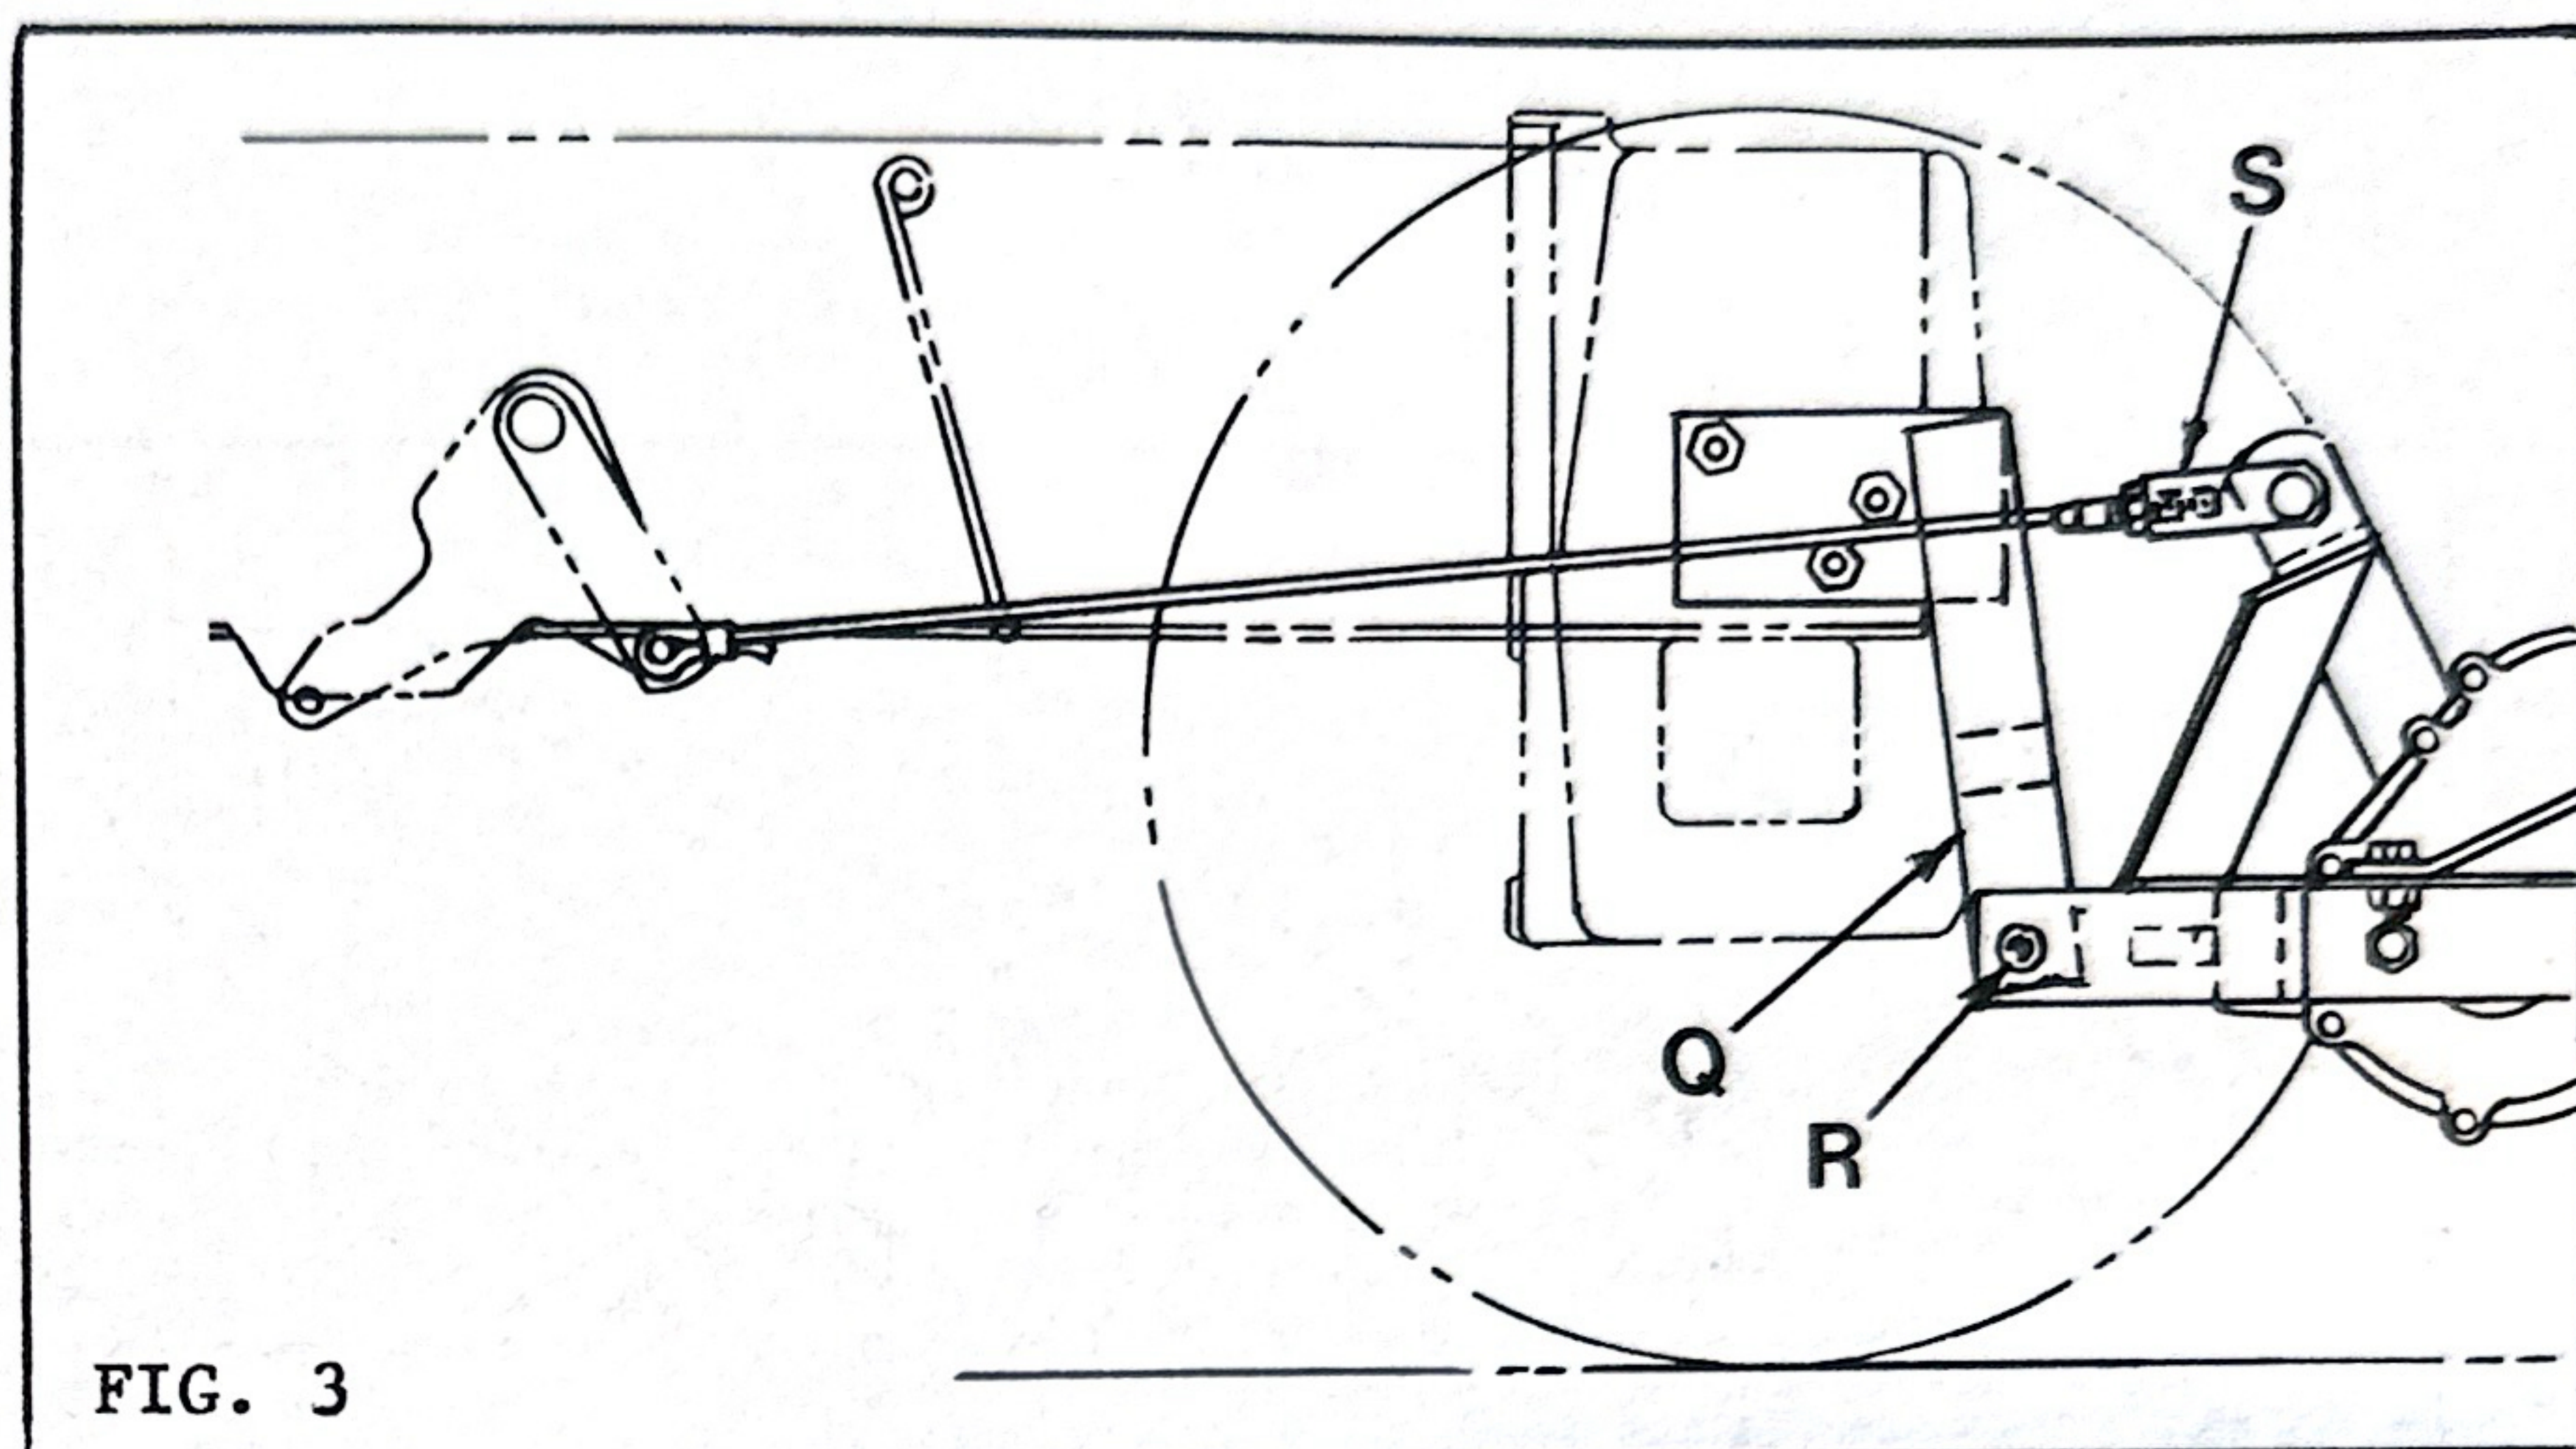

FIG. 3
32. Securely fasten the two hitch arms "Q", Fig. 3 and 4, to the outside of the frame. The arm with the large offset should be attached to the left side frame. Secure with six 1/2-13 x 1-1/4 cap screws, lock washers and hex nuts. Nuts and washers must be to the inside of the tractor.
34. Assemble the lift cable. Turn the 3/8-16 hex nut and yoke "S" onto the lift cable. See Fig. 3 and 4.
36. On hydrostatic tractors, route the lift cable along the inside of the frame and over the bent wire form. See Fig. 3. Secure between the lift arms with a 1/2 x 2-3/4 clevis pin and hitch pin.